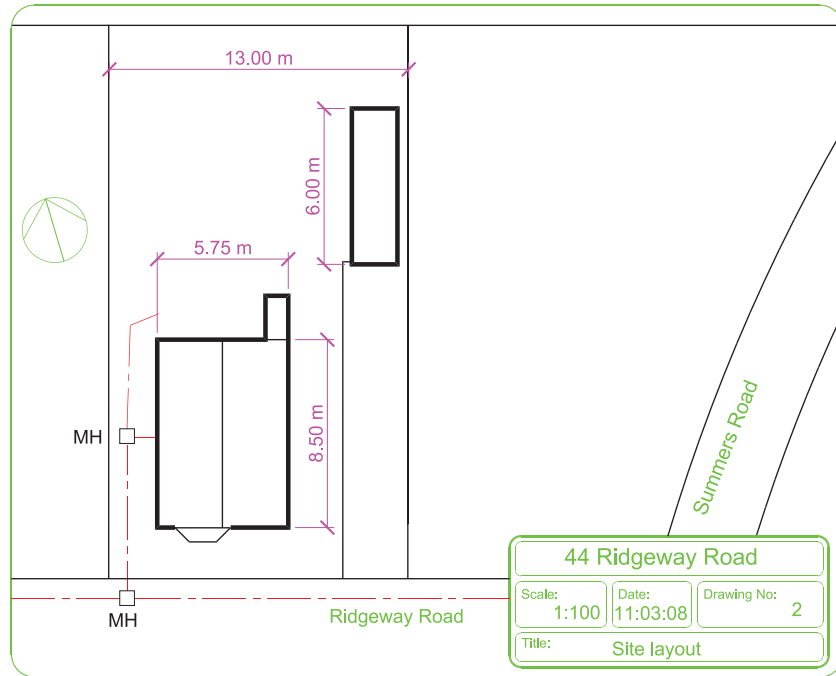

Fig. 16.2 A site layout plan
2. a site layout plan of the original house, drawn to a scale of **1:100** (Fig. 16.2);
Details of shapes and dimensions for the first two examples are taken from the drawings of the building and its extension at 44 Ridgeway Road given in the Figs. 16.2 to 16.6 on pages 305 to 307.
Details of this first example are taken from Figures 16.2 to 16.4 on pages 305 and 306.